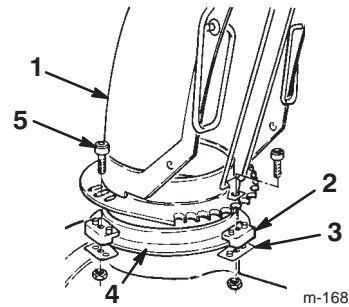

Figure 13
- Apply a light coat of low-temperature grease to the chute ring (Fig. 13).
- Set the discharge chute (open side forward) onto the discharge opening so that the chute retainers are on the chute ring (Fig. 13).
- Tighten the screw and the locknut on the left side to position the chute retainer against the chute retainer plate and to secure the discharge chute to the chute ring (Fig. 13).
- Push the other chute retainers toward the discharge chute (slotted), and tighten the screws (Fig. 13).
- Ensure that the chute rotates freely on the chute ring. If the chute binds, move the right-hand retainer outward (Fig. 13).